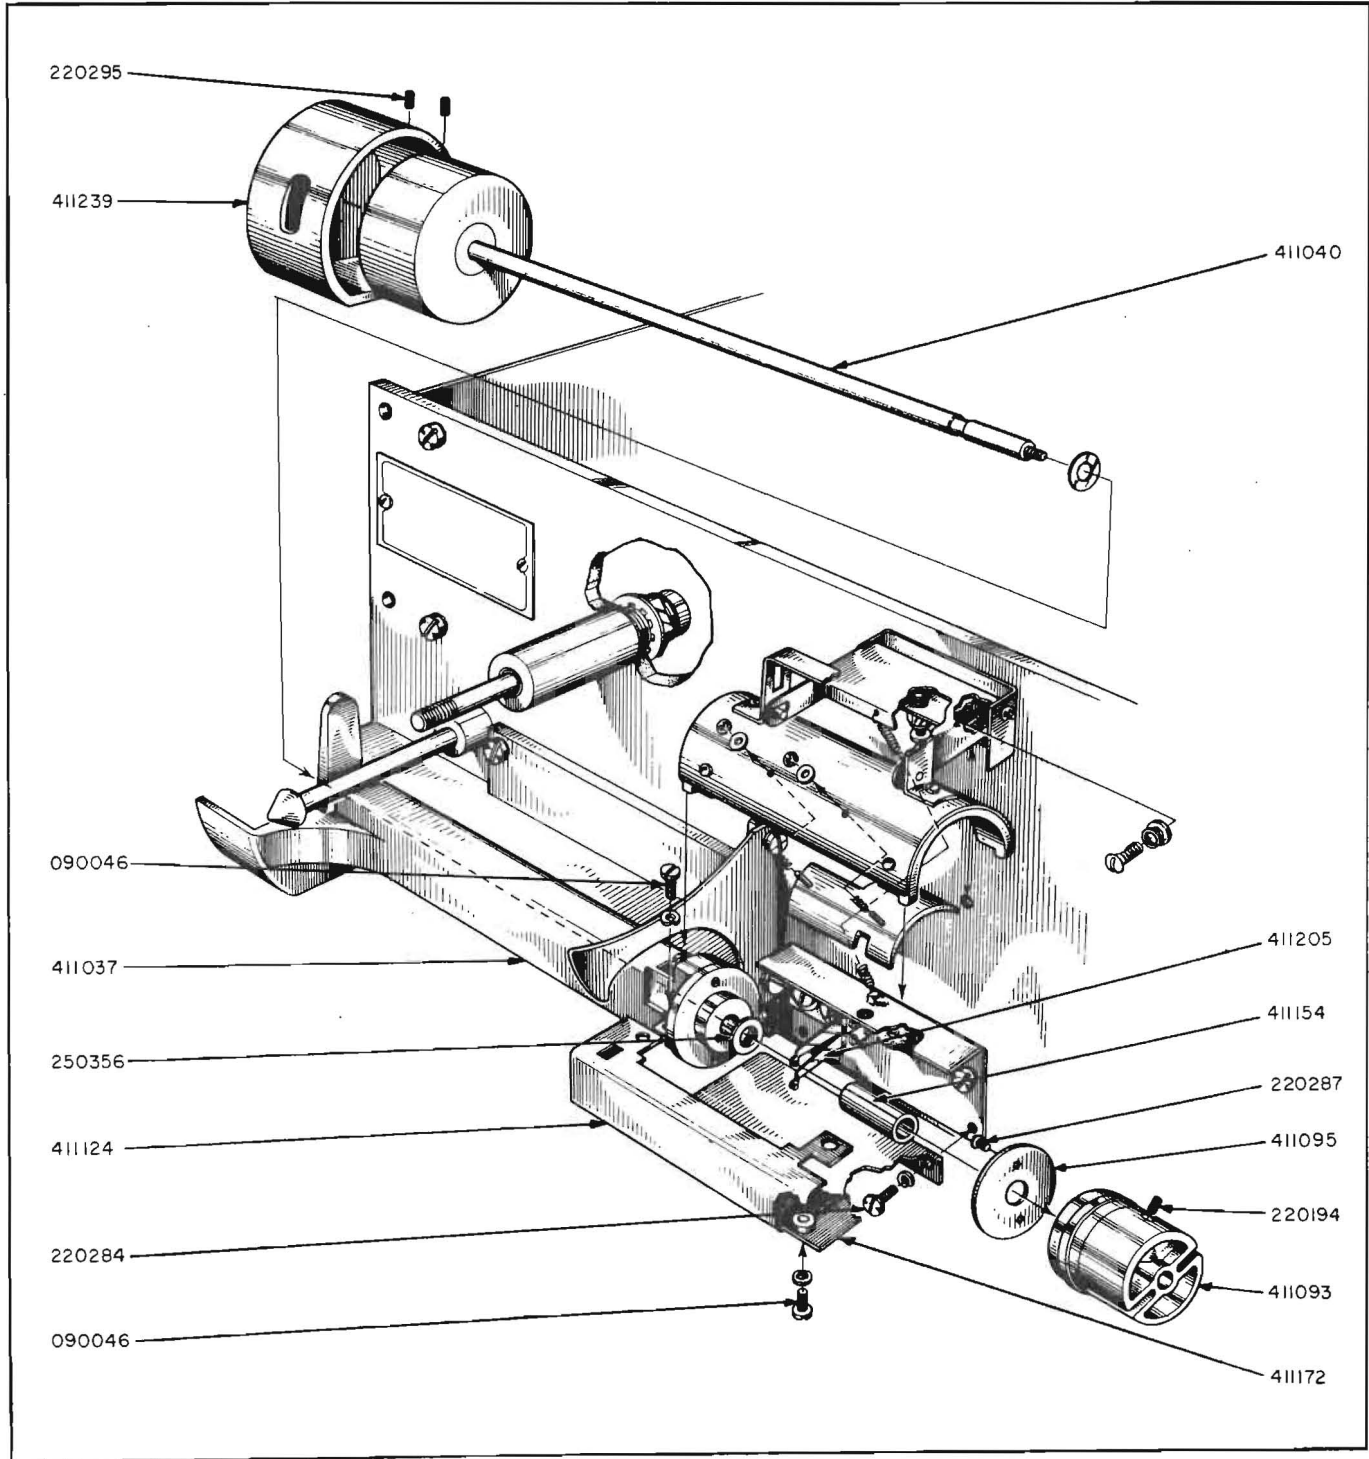
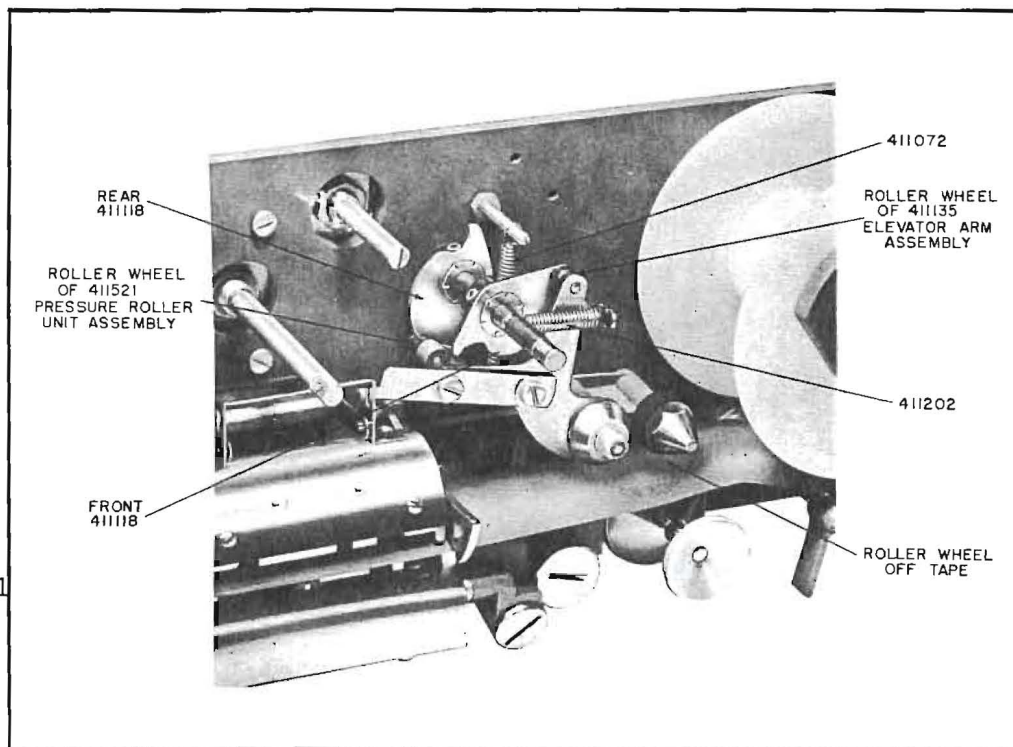

FIG. 13. Left Front Mechanical Assembly
FIG. 16. 411118 Cam And Hub Assemblies
3. 411093 Magnetic Recording Wheel Assembly and 411011 Drive Gear Flexible Coupling (Figures 13, 14).
- (p) Place 411 520 shim gage (one of special tools) between flywheel and outboard bearing of 411 037 mounting and bearing assembly, push flywheel and shaft assembly firmly toward right, push magnetic recording wheel assembly to left, firmly against 411 154 fiber spacer, and fasten magnetic recording wheel assembly to flywheel shaft (see Figure 16 in Section XII. Paragraph 4).
- (u) Repeat reverse of Step f. To fasten 411 093 magnetic recording wheel assembly properly in place, insert 411 520 shim gage between flywheel and outboard bearing of 411 037 mounting and bearing assembly, push flywheel and shaft assembly firmly toward right, push magnetic recording wheel assembly toward left, firmly against 411 154 fiber spacer, and fasten magnetic recording wheel assembly to flywheel shaft with #8 allen set screw (See Figure 16 in Section XII.Paragraph 4).
The Model S-124 Tape Recorder-Reproducer has been designed so that there are very few critical adjustments. The 411 079 mandrels (Figure 13. fastened to the take-up reel shaft and feed reel shaft, should have .005 inch "end play", as should the 411 040 flywheel and shaft assembly after the 411 093 magnetic recording wheel assembly has been fastened to it. This latter adjustment is described and illustrated in Figure 16 in Paragraph 4, this section. In addition, the 411 183 gear and shaft assembly and the 411 066 drive roller and shaft assembly should also have .005 inch "end play" when the 411 024 spur gear and 411 062 pulley respectively are fastened to them. All of these adjustments can be made with the 411 520 .005 inch shim gage, a special tool, to thus assure freedom of bind in these moving parts. The remaining adjustments, outlined below, should be carefully followed.
3. 411118 Cam and Hub Assemblies (Figure 16).
The only adjustment made to the magnetic recording wheel assembly is to make sure it is firmly fastened to the shaft of the 411 040 flywheel and shaft assembly, allowing .005 inch "end play" in the shaft of this assembly (See Figure 16 on preceding page). After this adjustment has been made, check to make sure the 411 011 drive gear flexible coupling is not excessively compressed. If it is, add another 250 356 flat washer between the flywheel and the mounting and bearing assembly (there is one there already). The 411 011 coupling must not, however, rub against the outboard bearing of the 411.083 outboard bearing assembly. The flywheel guard and bottom shield must be removed to perform any adjustment in the positioning of the 411 093 magnetic recording wheel assembly on the shaft of the flywheel and shaft assembly. For illustration purposes, Figure 16 shows the 411 124 front tape guide also removed.